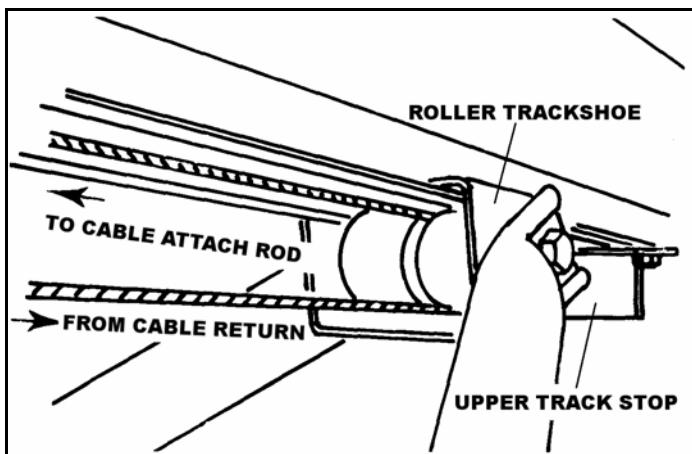

Figure 3.23
3. Loop cable around roller in track shoe, feeding it in bottom of roller and out top, as shown in Figure 3.23.